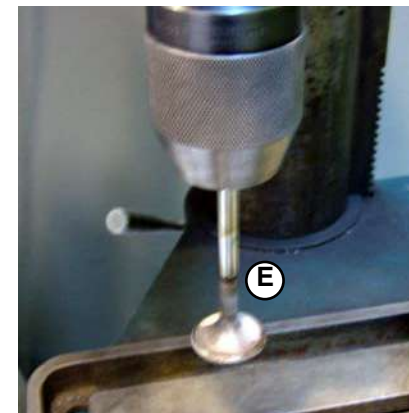

Fig.5
4. Clean the valves (**E-Fig.5**):